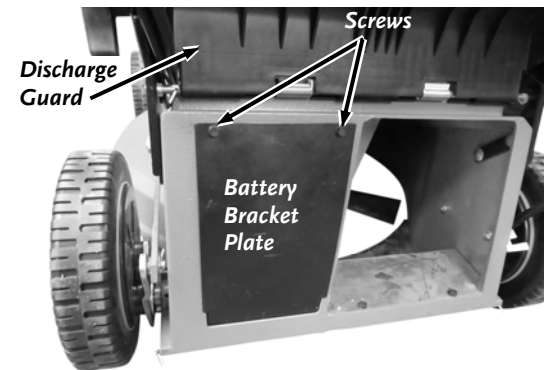

Figure 35
8. Lift and support the Discharge Guard (**Figure 35**).
12. Install the Battery Bracket Plate and secure with the two Screws using a 8mm Wrench (**Figure 35**).